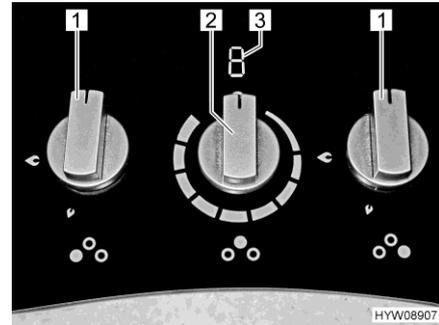

Fig. 192 Operating controls (gas cooker with induction hob)
- Turn the control knob (Fig. 192,1) on the burner you wish to use to the ignition position (large flame).
- Turn the control knob (Fig. 192,1) to 0 position. The flame fades.
- Turn the control knob (Fig. 192,2) of the induction hob to the desired setting. The indicator (Fig. 192,3) shows the adjusted value.
- Turn the control knob (Fig. 192,2) of the induction hob to the 0 position. The indicator (Fig. 192,3) goes out. As long as the temperature of the induction hob exceeds 60 °C after switching off, the indicator will show "H" (residual heat display).
The following information is displayed on the induction hob (Fig. 192,3):